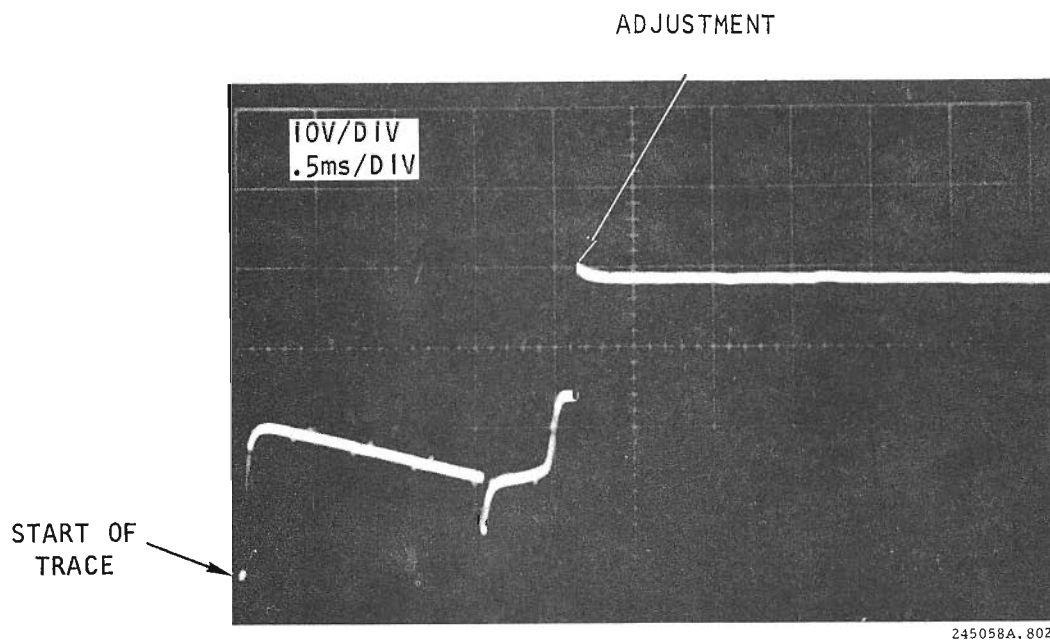
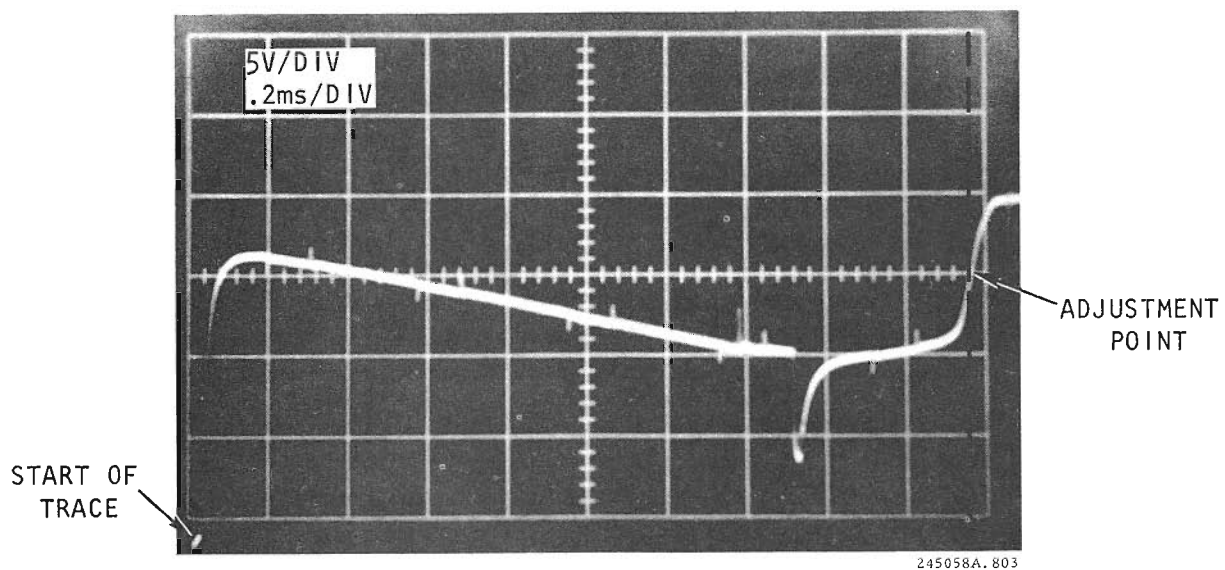

Figure 6-2. Hammer Flight Time
Figure 6-3. Hammer Flight Time (Full Scale)
- i. Observe the oscilloscope trace. The hammer flight time should be approximately 1.95 ms ($\pm .02$ ms), as shown in figure 6-2. Refer to figure 6-3 for a full scale view of the waveform.